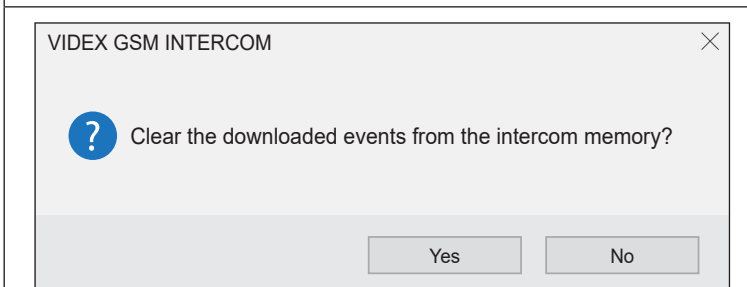

Fig. 72
- Once the event log has been saved the **'clear the downloaded events'** prompt window will appear, as shown in **Fig.72**.